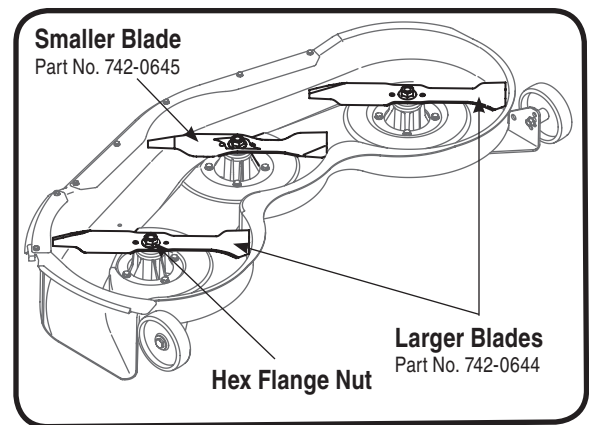

Figure 21
6. Mount the SMALLER of the three blades to the CENTER spindle. The remaining two blades are interchangeable. See Figure 21.